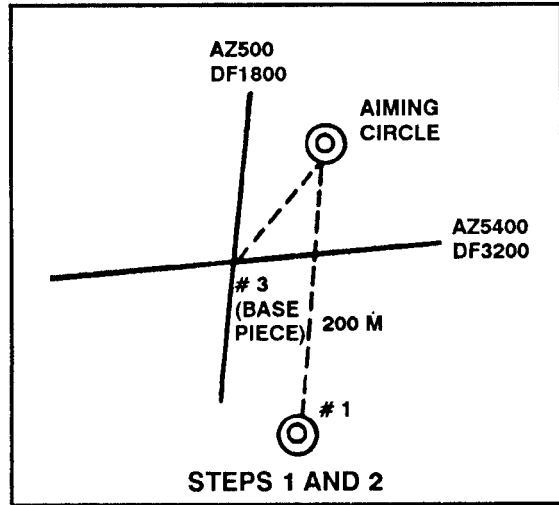

Figure G-4b. Determination of piece displacement (continued).
Step 2. Count 200 meters parallel to the center line down from the aiming circle. Place a circled dot there and label it No. 1. (Figure G-4b.)